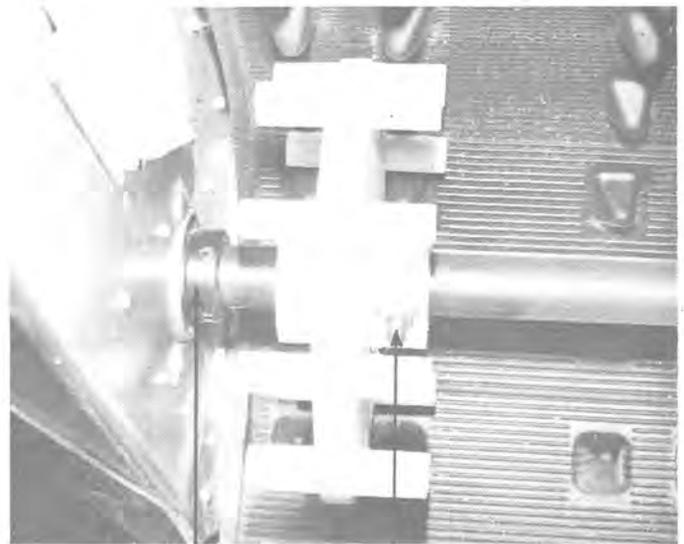

FIG. 5-4
1. Remove 5/16" bolts securing sprockets to shaft. (See Fig. 5-4).